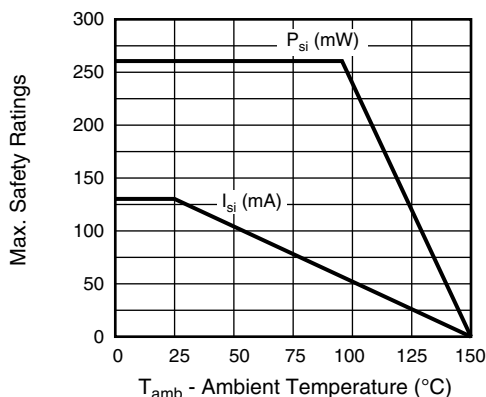

Fig. 4 - Safety Parameter Derating Diagram
- According to DIN EN60747-5-5 (see figure 4). This optocoupler is suitable for safe electrical isolation only within the safety ratings. Compliance with the safety ratings shall be ensured by means of suitable protective circuits.